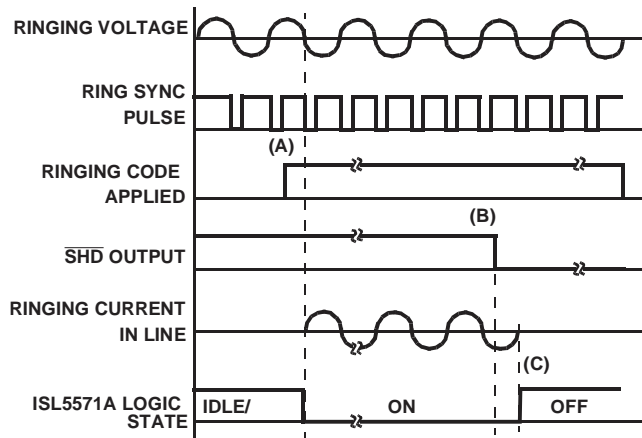

FIGURE 7. COEFFICIENT RAM OPERATION SCREEN
Figure 7 shows the sequence of events from ringing the phone to ring trip. The ISL5571A rings the phone when both the ringing code and ring sync pulse are present (A). $\overline{\text{SHD}}$ is high at this point. When the subscriber goes off hook the $\overline{\text{SHD}}$ pin goes low and stays low until the ringing control code is removed (B). This prevents the $\overline{\text{SHD}}$ output from pulsing after ring trip occurs. At the next zero current